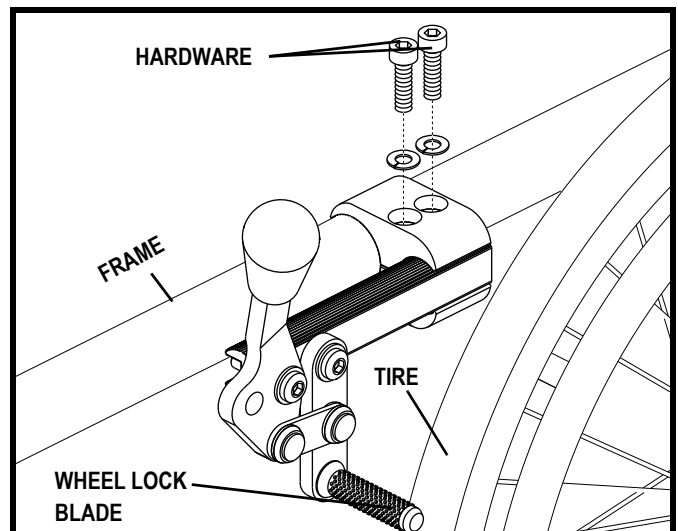

Figure 38. Wheel Lock Adjustment
2. Loosen the hardware that fastens the wheel lock to the frame. See figure 38.